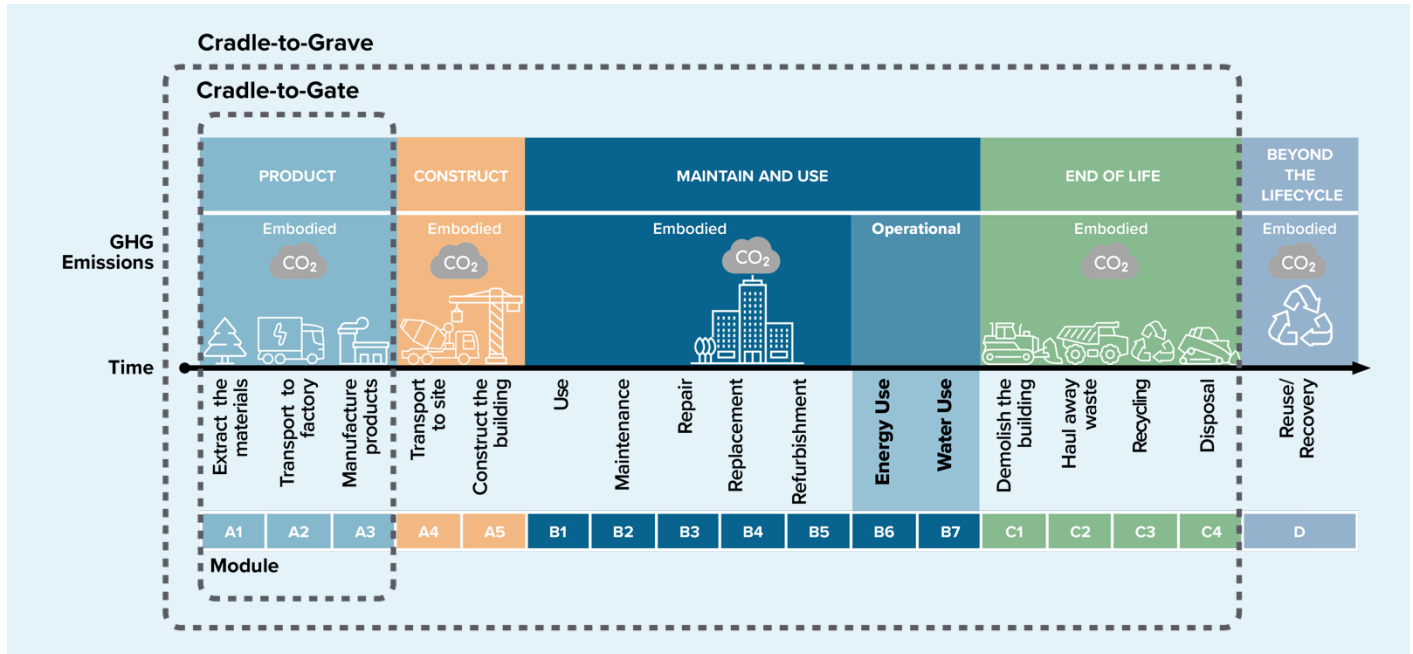

Figure 2: Life Cycle Stages and Corresponding Information Modules for Construction Materials and Products
PCRs are developed by consensus-run committees of stakeholders and industry experts, assembled by a program operator. A PCR provides guidance on how EPDs within a product category need to be developed. It prescribes system boundaries, the declared or functional unit to be used, how to define each life cycle stage of a product, and which impact categories need to be assessed. See Figure 2 for the various system boundaries and life cycle stages of a product. For example, one existing PCR for asphalt mixtures defines the system boundary as the cradle-to-gate life cycle stage and allows two declared units: one metric ton of product and one short ton of product. Reporting consistent units allows users and customers to compare one product to another if the products are using the same PCR. Note that some PCRs have additional comparability requirements that must be followed.
2. Create an LCA. Now that the right PCR has been chosen, what’s next? An LCA needs to be undertaken, and that process starts with data collection. The LCA practitioner or EPD generator software will inform you of the specific data needed. Since that data is often particular to your manufacturing process and embedded in internal systems, you’ll need to work with different teams across the company (such as accounting, operations and procurement) to collect it. The PCR will outline what data should be collected and what life cycle stages (such as cradle-to-gate or cradle-to-grave) need to be reported in the LCA and EPD. See Figure 2 for the life cycle stages.